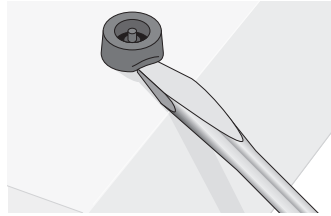

Figure 13. Removing the Feet
- Using a flat-head screwdriver, remove the snap-on plastic feet from the bottom of the switch, as shown in Figure 13.